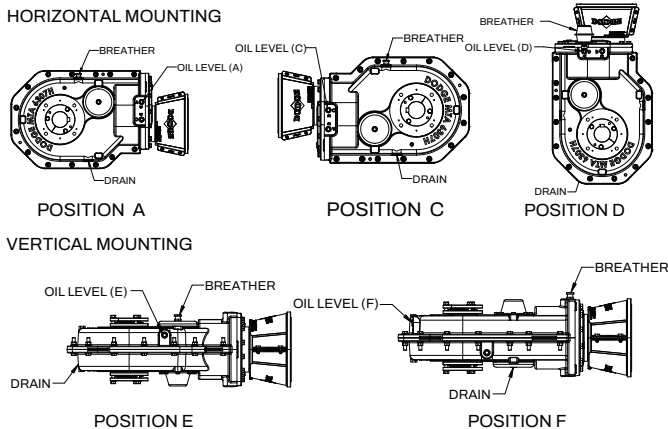

Figure 4 - Mounting Positions, C-Face
2. Determine the running positions of the reducer. Although the reducer may be operated in any position, the preferred mounting position is with the motor in the horizontal position (Position C) as shown in Figure 4. Position B is not recommended. Note that the reducer is supplied with seven plugs: four around the sides for horizontal installations, two plugs on the front face, and one plug on the back face for vertical installations. These plugs must be arranged relative to the running positions as follows:
Horizontal Installations—Due to the many positions the MTA reducer may be oriented, the factory-installed positions of the magnetic plug and breather may need to be relocated. The proper location for the magnetic plug is the hole closest to the bottom of the reducer. The filter breather is to be installed in the uppermost hole. Of the two remaining plugs on the sides of the reducer, the highest plug is the minimum oil level plug as shown in Figure 4.
① Refer to Figure 4 for mounting positions.
② Oil quantity is approximate. Service with lubricant until oil runs out of the oil level hole as indicated per drawings in Figure 4.
③ US measure: 1 quart = 32 fluid ounces = 0.95 liters
④ Below 15 RPM output speed, the oil level must be adjusted to reach the highest oil level plug. If the reducer position is to vary from those shown in Figure 4, either more or less oil may be required. Consult Dodge Gearing Application Engineering.
⑤ Position B is not shown OR recommended, check with the factory.
⑥ Position D breather kit (Part Number 472300) configuration should be used for best lubrication and oil level results.